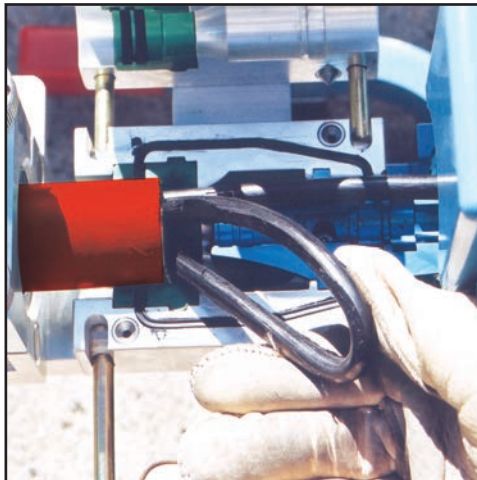

Figure 17. Cable folds over
19. Repeat steps 12-16 until cable damage is seen – either in the form of jacket damage or bends in the cable, the cable folds over, or you reach 1500 psi. You will notice cable fold-over because the line drawn on the cable will disappear inside the machine or duct. (Figure 17).